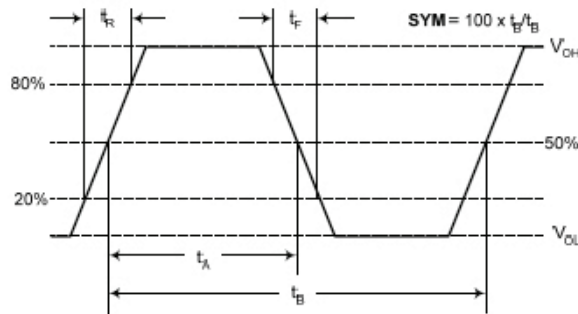

Figure 3. LVPECL Waveform
4. Measured from 20% to 80% of a full output swing (Fig 3).